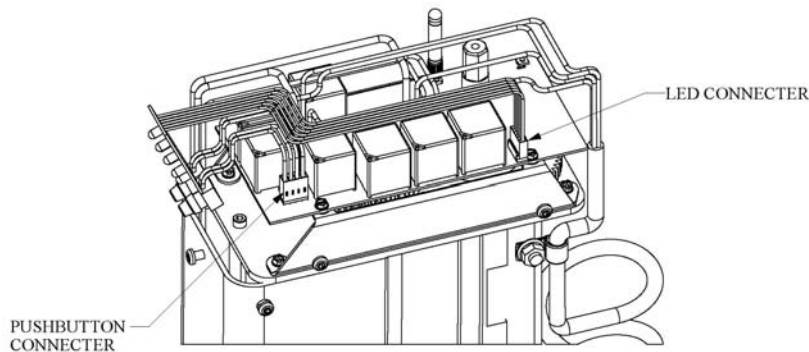

Fig. 1.11
2. Connect the wiring harness connectors to the receiver PCB board. Refer to Fig. 1.11.
7. Disconnect the ON & OFF pushbutton switch wiring harness connector and the LED PCB wiring harness connector from the receiver PCB. Refer to Fig. 1.11.
4. Connect the wiring harness connectors to the receiver PCB board. Refer to Fig. 1.11.
9. Disconnect the ON & OFF pushbutton wiring harness connector and the LED PCB wiring harness connector from the receiver PCB. Refer to Fig. 1.11.
11. Connect the LED PCB wiring harness connector and the ON & OFF pushbutton switch assembly wiring harness connector to the receiver PCB board. Refer to Fig. 1.11.